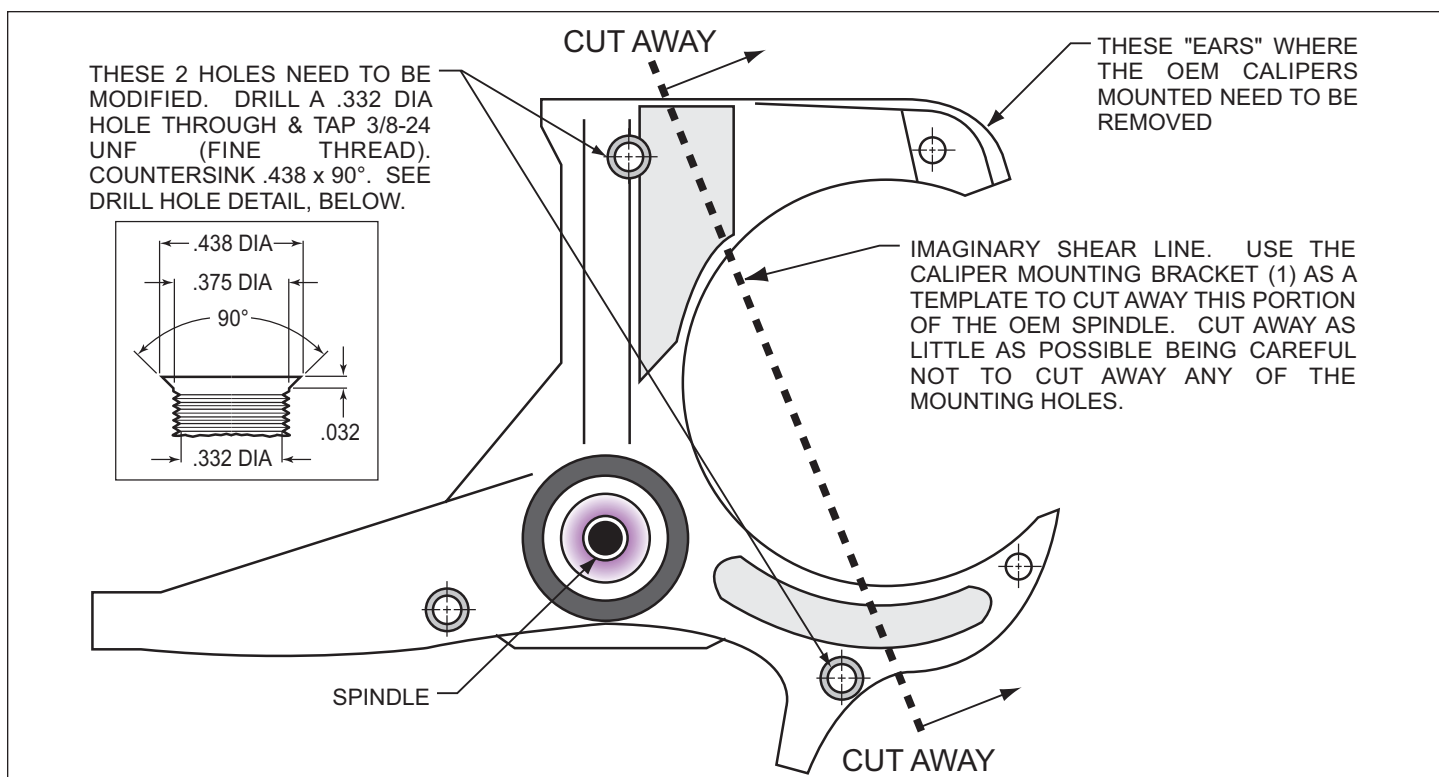
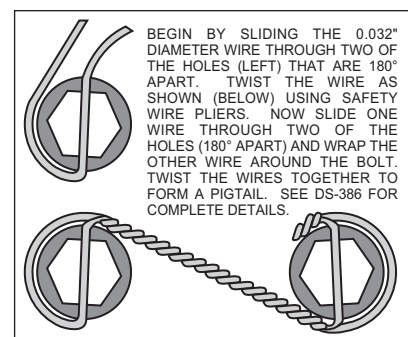
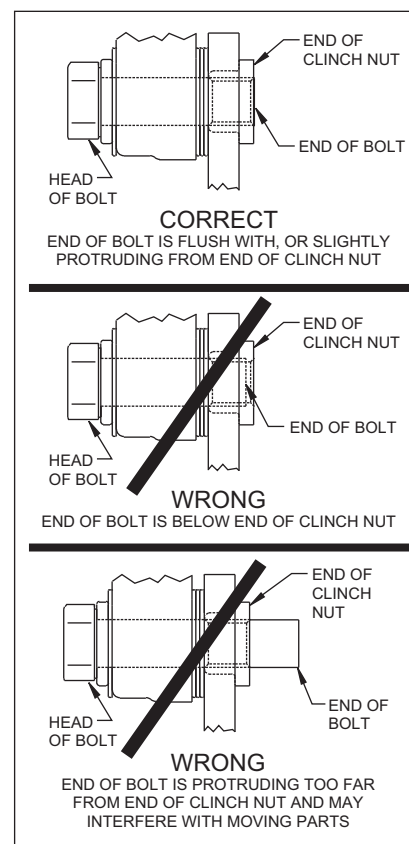

Figure 1. Steering Arm / Spindle Modifications
Figure 4. Safety Wire Diagram
Figure 5.
These modifications should be performed by a qualified machinist. Refer to Figure 1 on the following page as necessary (numbers in parenthesis refer to the parts list on page three). Only one view of the steering arm/spindle is shown, but the modifications need to be performed on both steering arm/spindles.
- Attach rotor adapter (8) to rotor (9) using six bolts (10). Torque bolts (10) to 180 in-lb. Safety wire bolts (10) using standard 0.032 inch diameter stainless steel safety wire as shown in Figure 4. Please refer to Wilwood's data sheet DS-386 (available at www.wilwood.com/Pdf/DataSheets/ds386.pdf) for complete safety wire installation instructions. **NOTE:** The flat side of the rotor (8) lugs face toward the rotor adapter (9) with the dished side of the rotor adapter (8) facing away from the rotor (9).
- Mount the adapter/rotor assembly (8/9) to the hub (5) using bolts (11), as shown in Figure 1. Using an alternating sequence, apply red *Loctite*® 271 to the threads, and torque to 55 ft-lb.
- Pack the small outer bearing cone (12) with high temperature disc brake bearing grease and install into front of hub (5). Slide the hub/rotor assembly (5 and 9) with outer bearing cone (12) onto the spindle. Secure using supplied washer (13), original adjusting nut and nut locking device.
- Install the dust cap (15) onto the hub (5). Friction created by the o-ring (14) on the dust cap (15) keeps it from unscrewing. The O.D. of the existing spindle washer may be larger than the I.D. of the dust cap (15) not allowing it to seat against the hub face. Therefore, use the spindle washer (13) supplied with the kit instead of the stock washer.
• **NOTE:** Please reference the caution statement at the beginning of the assembly instructions. This kit contains distinct right and left hand calipers that must be mounted in a specific direction, as described below. Mount the caliper (16) onto the caliper bracket (1) using bolts (18) and washers (17), as shown in Figure 1. Initially place two .032" thick shims (19) on each bolt between the caliper and the bracket. Ensure that the caliper is mounted so the largest pistons are at the rotor exit end of the caliper, in relation to the direction of rotor rotation. Temporarily tighten the mounting bolts and view the rotor (9) through the top opening of the caliper. The rotor should be centered in the caliper. If not, adjust by adding or subtracting shims (19) between the bracket and the caliper. Always use the same amount of shims on each of the two mounting bolts. **NOTE:** The end of the bolt must be flush with or slightly protruding from the head of the clinch nut in the bracket. If necessary, place spare shims between the washer and the caliper mounting ear to achieve the proper clinch nut engagement, as shown in Figure 5. Once the caliper alignment and clinch nut engagement are correct, remove the bolts one at a time, apply red *Loctite*® 271 to the threads, and torque to 40 ft-lb. Safety wire the bolts as shown in Figure 4.
- Install the disc brake pads (20) into the caliper (16). Secure the disc brake pads to the caliper utilizing the pad clip retainer (21).